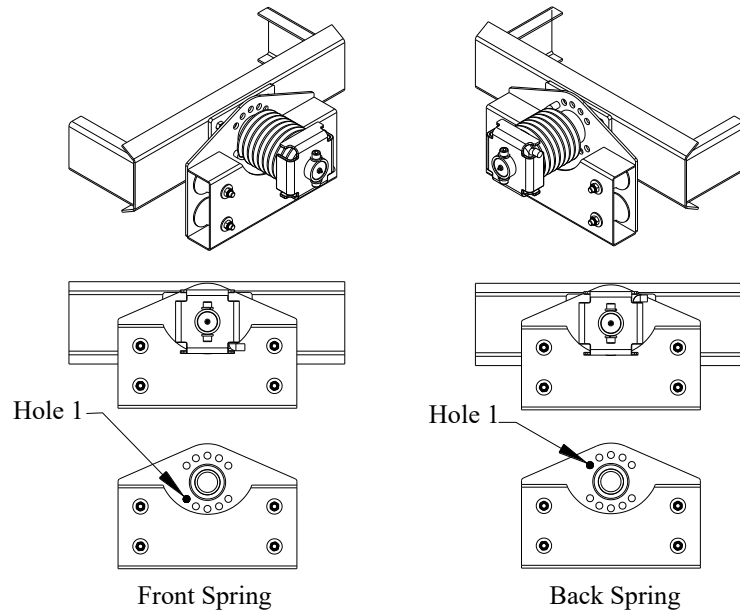

Figure 6.3 In Between the Hoods
- a) **In Between The Hoods Tarp** Slide the Hub Spring –LH (White) onto the front Roller Plate Assembly, align the spring into hole# 1 from bottom left of the Roller Plate Assembly. **Refer Figure 6.3.**
- a) **In Between The Hoods Tarp** Slide the Hub Spring –RH (Black) onto the front Roller Plate Assembly and align the spring into hole# 1 from top left of the Roller Plate Assembly. **Refer Figure 6.3.**